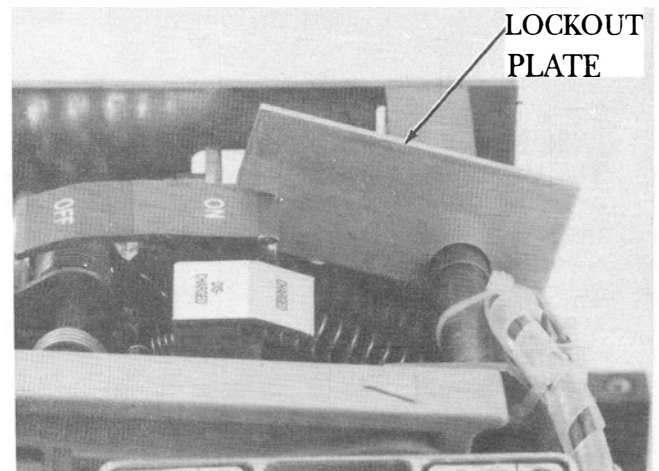

Figure 2. Flag lockout plate installed in breaker.
4. Hold the ON-OFF flag towards the ON position, then carefully insert the flag lockout plate to retain the flag in this position. The flag lockout plate should be installed close to the side frame on which the ON-OFF flag pivots and over the larger diameter portion of the mechanism cross pin. The installed flag lockout plate is shown in Figure 2.